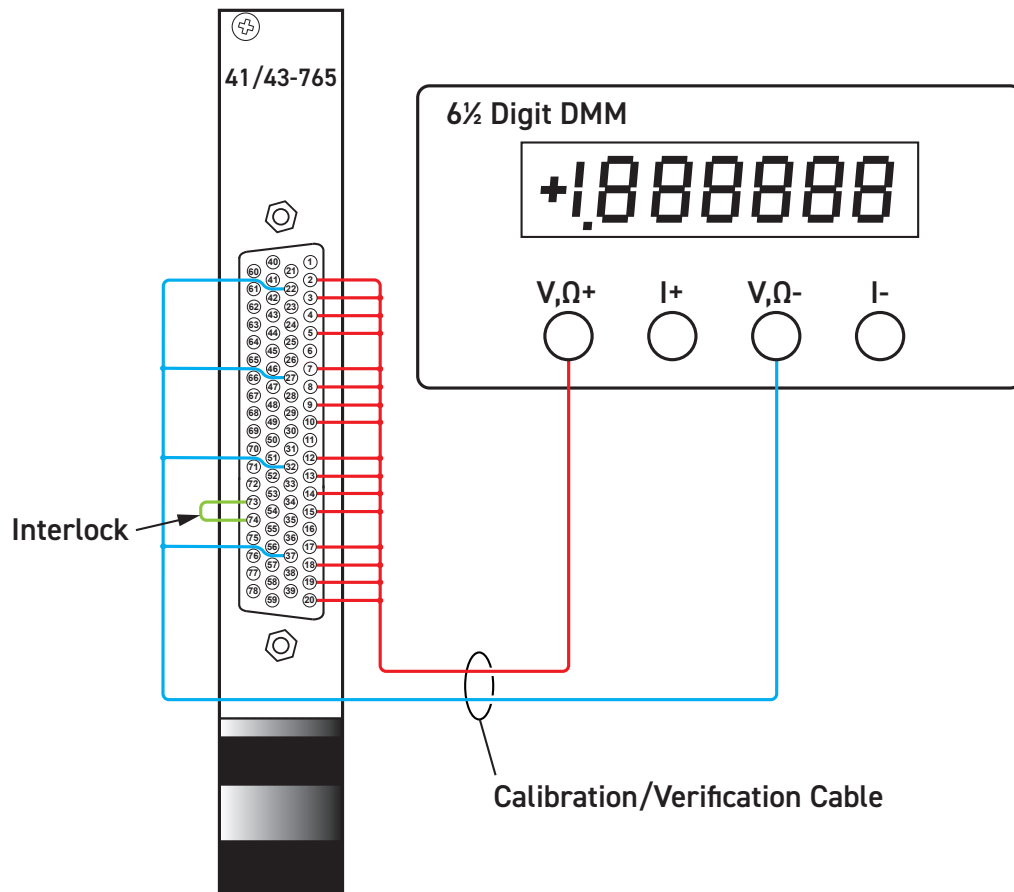
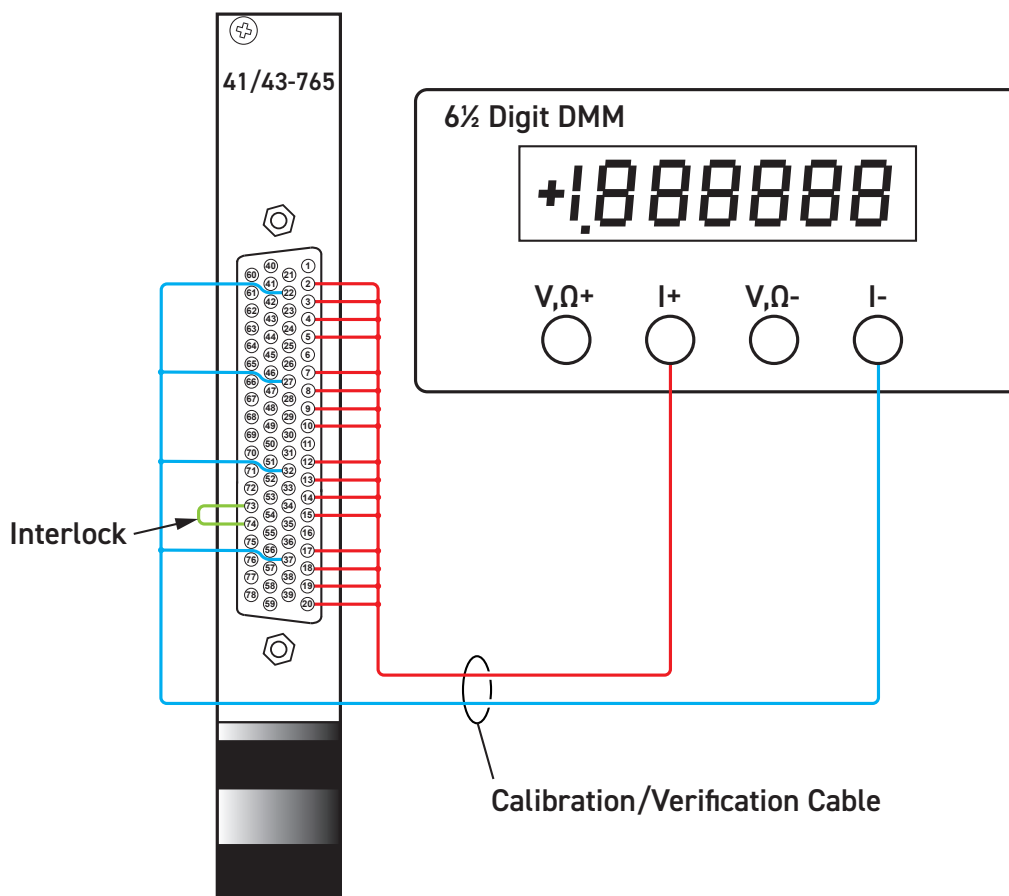

Figure 7.1 - 41/43-765 Voltage Verification Setup
Figure 7.2 - 41/43-765 Current Verification Setup
- All channels can be connected in parallel as shown in Figure 7.1 (for voltage verification) or Figure 7.2 (for current verification). This is achieved by connecting all OUT connections and a GND connections for each bank, providing a single 2-wire connection to the DMM.